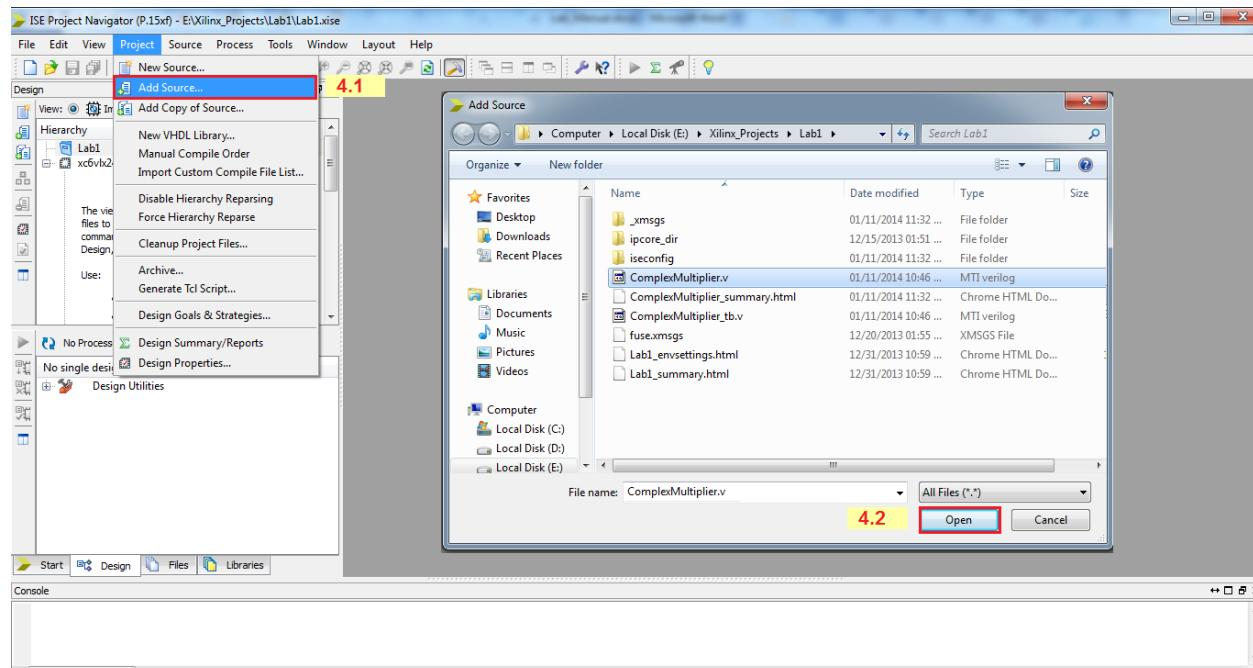

Figure 10. Adding a source to the project.
4. Adding Source Files (Figure 10)